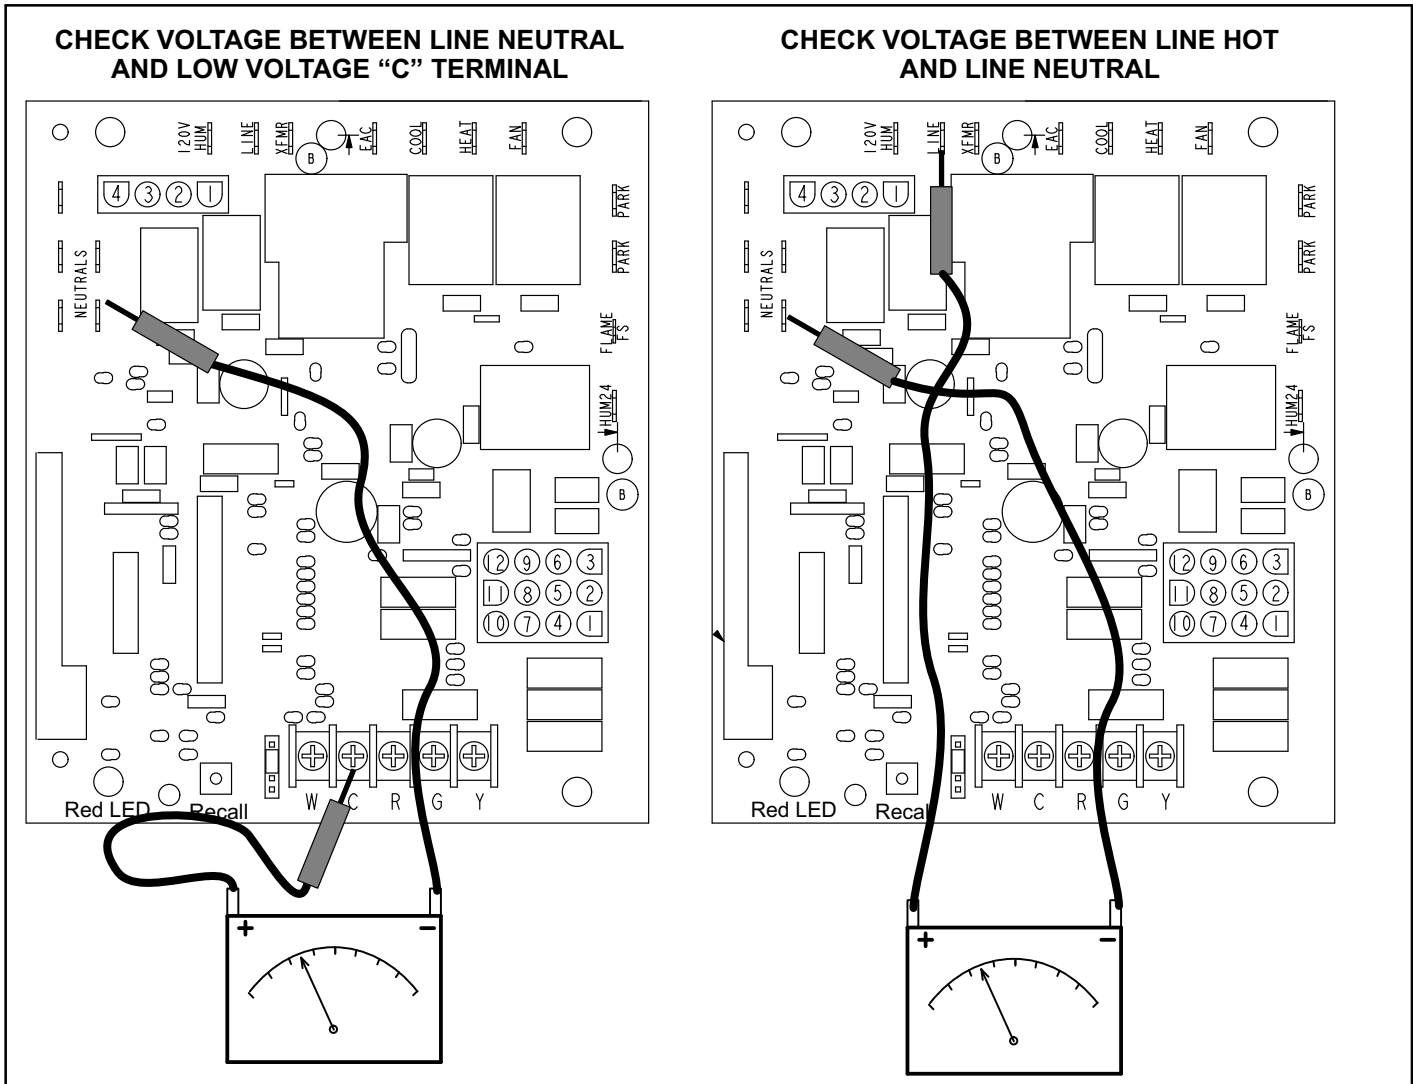

FIGURE 57
- 1 - Measure the AC voltage between Line Neutral (spade terminals) and "C" terminal (low voltage terminal block) on the integrated control. See figure 57. A wide variation in the voltage between Line Neutral and "C" as a function of load indicates a poor or partial ground. Compare the readings to the table below. If the readings exceed the maximum shown in table 1, make repairs before operating the furnace.
- 2 - In addition, measure the AC voltage from Line Hot to Line Neutral (spade terminals) on the integrated control. See figure 57. This voltage should be in the range of 97 to 132 Vac
Note - Figure 57 is a typical ignition control illustration.